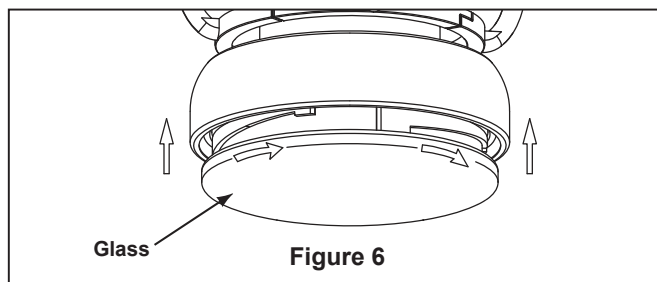

Figure 6
- ☐ 6. Securely attach glass by twisting clockwise onto the socket plate assembly. Don't overtighten or force it. (Figure 6)
- ☐ 6. Secure the motor assembly onto the ceiling bracket assembly using the two screws that were previously removed. Securely tighten the four screws. (Figure 6)